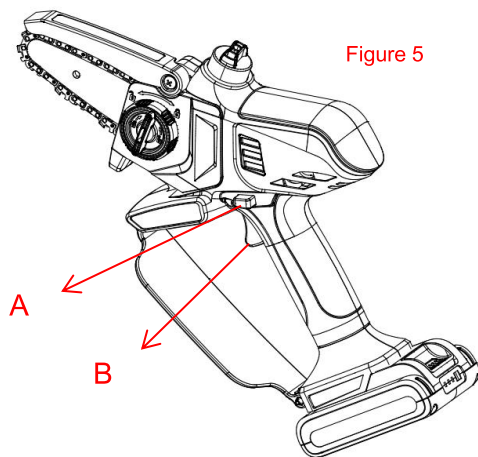

Figure 5
- a. Press the button "A" in the Figure 5, unlock the safety button, At the same time press the button "B" in Figure 5 to start the machine.
- b. Release the button "A" in the Figure 5.
Release the button "A" in the Figure 5 to stop the machine.